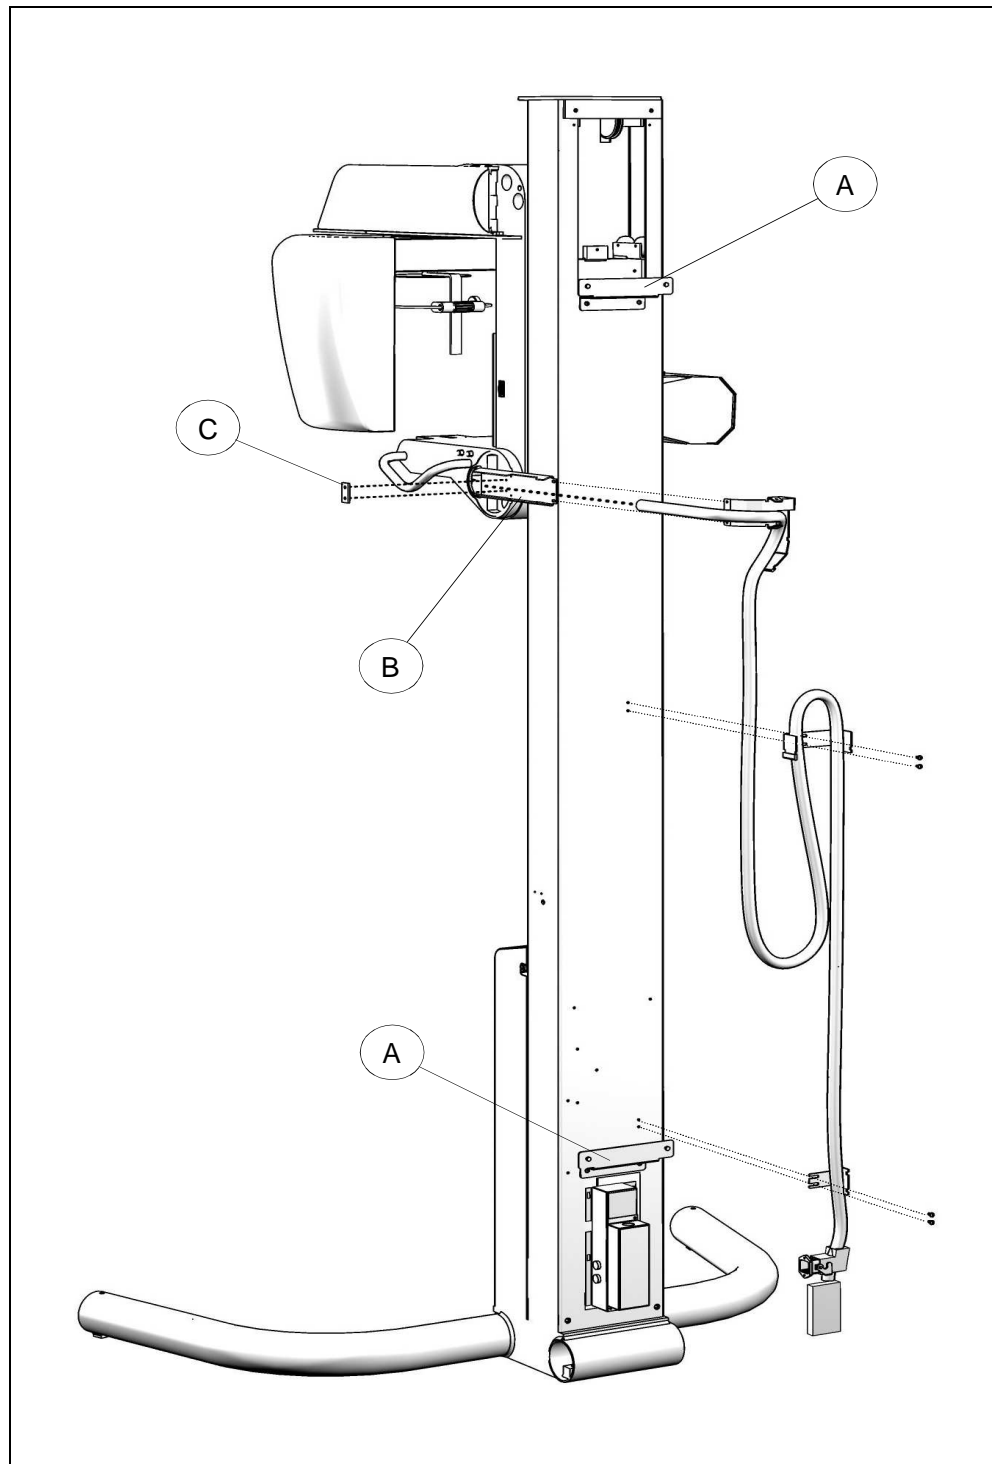

Figure 6-7
- 14.** Install the two brackets "A" (code 5608100300) and the cable support bracket "B" (supplied inside the relevant cover) (Figure 6-7).
- 15.** Fix the cables routing it as shown in Figure 6-7. The upper connectors have to enter inside the chin support through the relevant hole. Fix the cable to the bracket "B" using the plastic plate "C" (code 5608500600).